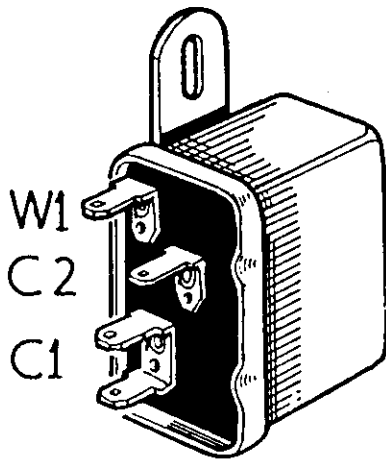

FIG. G.13. Horn relay.
- (1) Eliminate the horn push circuit by earthing W1 terminal (see Fig. G.13) with a temporary wire. If the horns then operate, check the horn push and associated wiring.
- (2) Having carried out Test 1. and the horns still fail to operate, apply a direct feed to the horns with a temporary link between relay terminals C1 and C2. If the horns then operate, a faulty 6RA relay is indicated.